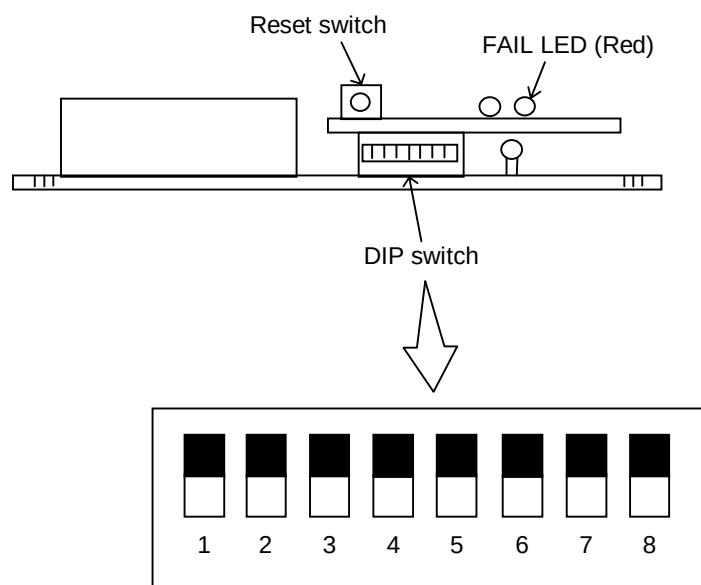

Figure 14.3 Replacing LAN ASSY (3)
(1) Procedure
- ① Open the rear cover. (See RW-REP0170.)
- ② Disconnect the cable (RS232C).
- ③ Set No.8 DIP switch of the corresponding CTL ASSY.
- ④ Push the reset switch of the corresponding CTL ASSY.
- ⑤ Wait ten seconds, check to see that the FAIL LED on the CTL ASSY comes on and it enters the blocked state. (See Figure 14.3.)
- ⑥ Open the right and left levers to the direction of arrows (→) at the same time then remove the CTL ASSY.
- ⑦ Remove the LAN ASSY by pulling it upward. Then mount a new LAN ASSY by aligning its mounting holes with the card spacers and pressing the LAN ASSY against the spacers until it is latched with clicks.
- ⑧ Set No.8 of DIP switch to as shown.
- ⑨ Reinstall the CTL ASSY.
- ⑩ Close the rear cover. (See RW-REP0170.)